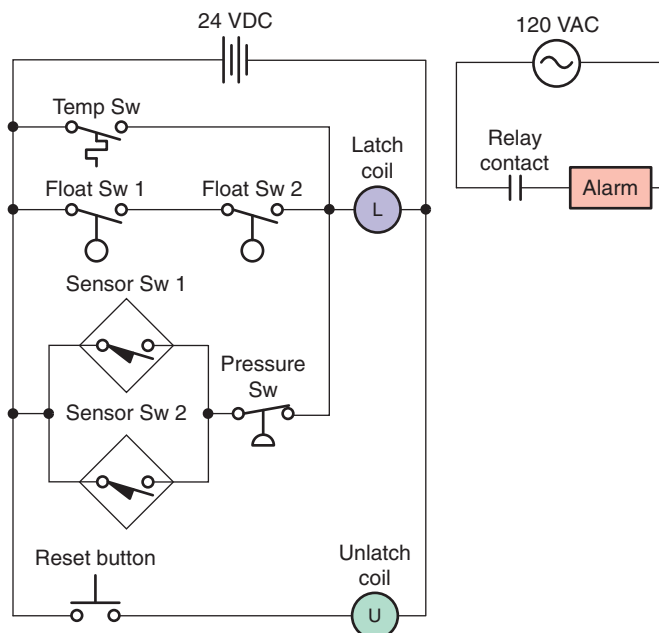

Figure 15-39 Hardwired latching relay alarm circuit for Problem 3.
3. Implement the hardwired latching relay alarm circuit of Figure 15-39 in Logix format. The alarm will be latched on anytime: